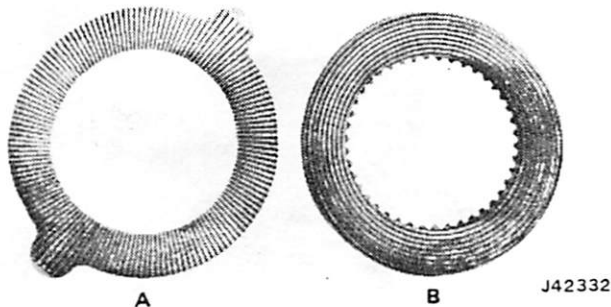

Fig. 2F-70 Clutch Plate and Disc Identification
Examples of radial groove clutch plate (A) and the concentric groove disc (B) are shown in figure 2F-70.